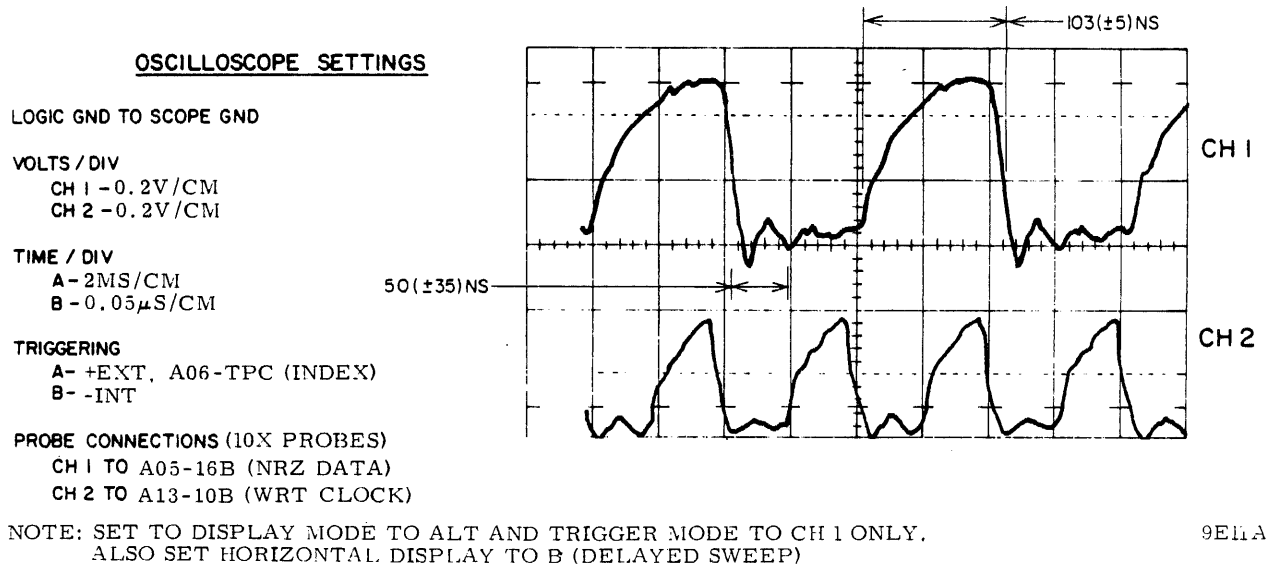

Figure 5-11. NRZ Write Data Input Waveform
- a. Connect and setup oscilloscope as shown in figure 5-11.
- b. Observe that signals have timing relationships as shown in figure 5-11.